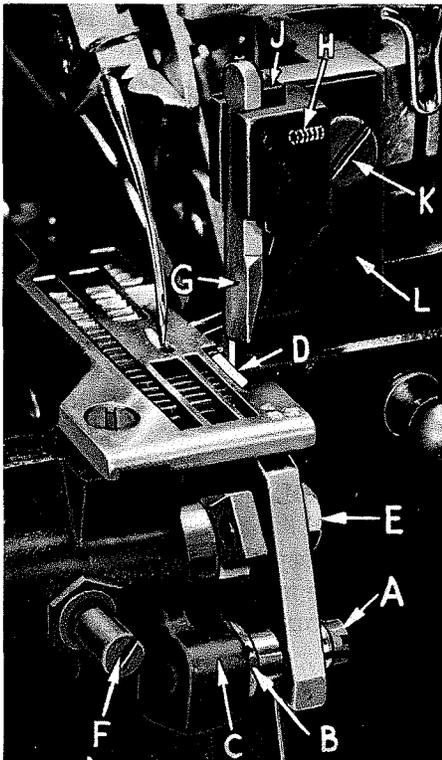

Fig. 15
Replace lower knife holder assembly. In replacing lower knife holder assembly, tighten screw (A, Fig. 15) so that when the face of the flange on sleeve (B) seats against throat plate mounting bracket (C) a free lateral motion of the lower knife and holder assembly is obtained when the knife is manually pressed at its upper corner. Lower knife (D) should be set with cutting edge flush with throat plate surface. Adjustments are made with hexagonal head screw (E) which holds the lower knife. Lower knife is spring pressed against the upper knife, so no lateral adjustment is necessary when the width of trim is changed.
Replace upper knife assembly. Clamp upper knife (G, Fig. 15) in position, setting allen screw (H) to hold clamp (J) against the upper knife. At bottom of its stroke, front cutting edge of upper knife should extend not less than  $1/64$  inch below cutting edge of the lower knife.
Replace upper knife assembly. Clamp upper knife (G, Fig. 15 A) in position, setting nut (H) to hold clamp (J) in its most clockwise position against upper knife. At bottom of its stroke, front cutting edge of upper